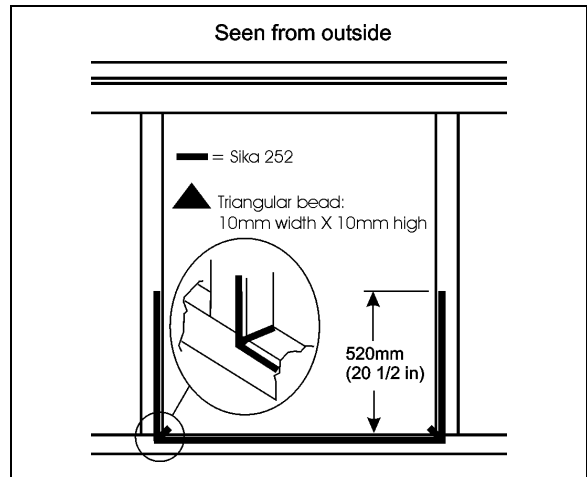

FIGURE 71: AWNING WINDOW – SIKI 252 APPLICATION
- Apply Sika 252 as per FIGURE 71 (triangular bead: 10mm width X 10mm high) [10mm≈3/8”];